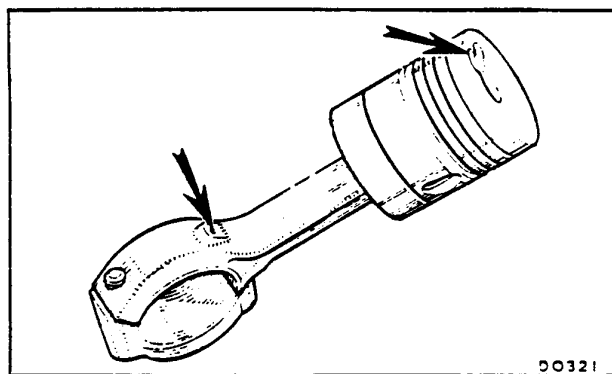

Fig. 2
4. Assemble the piston to the connecting rod with the combustion cavity and oil jet hole in line as shown in Fig. 2.